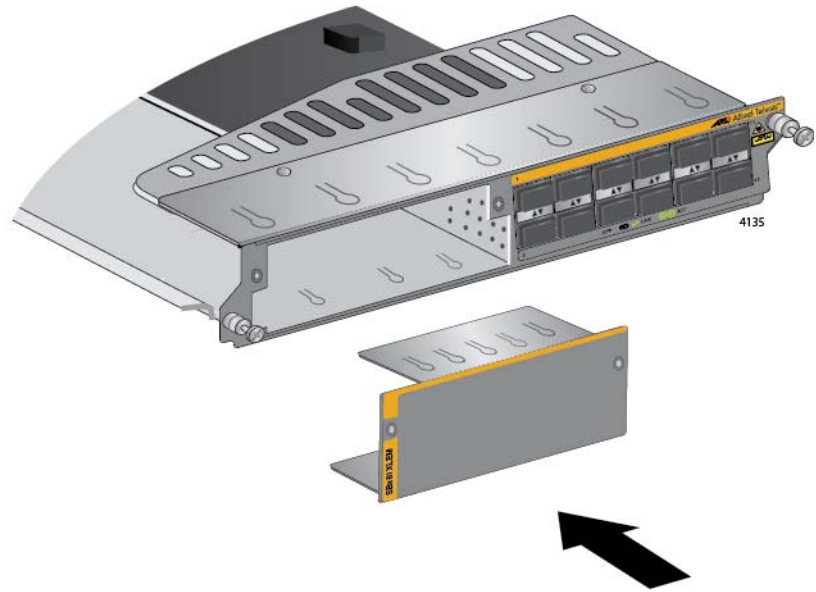

Figure 186. Sliding the Blank Slot Cover into the AT-SBx81XLEM Line Card
9. Slide the blank slot cover that comes with the line card into the slot on the card. Refer to Figure 186 on page 290.